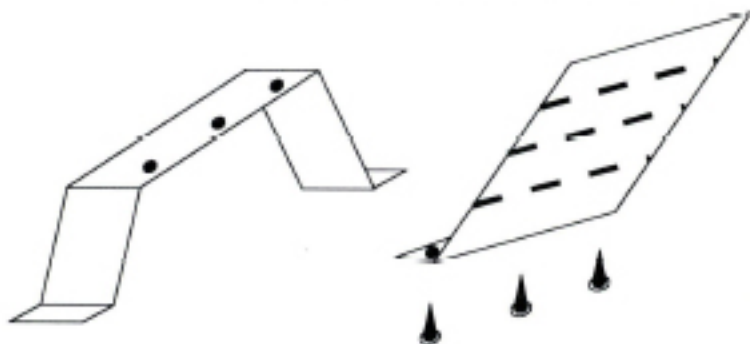

Fig. 2
8. Insert the rim of the pan (at the motor end of the unit) into the mounting clip. Swing the pan up, flush to the duct, and mark location of the (2) side holes on the duct. On narrow ducts, mark location of the (2) front holes on the duct. Take down the unit.
9. Drill (2) $\frac{1}{4}$ " diameter holes as marked above.
10. Assemble the deflector mount to the deflector with the (3) sheet metal screws provided (Fig. 2).